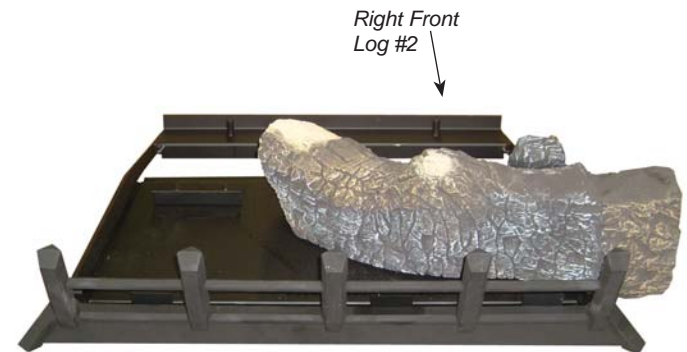

Figure 30
2. Place front right log (#2) on right pin located on burner and right grate bar. *Figure 30*. After placing front right log, ensure log is fully upright and tilting towards the back of the burner.